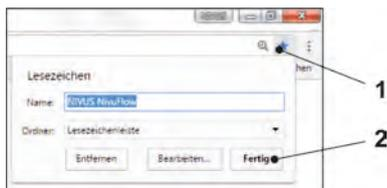

Fig. 31-25 Set up favourites
7. To create a browser favourite (for direct access) click the “Favourites” star (Fig. 31-25 no. 1, example here Google Chrome) and confirm with “Finished” (Fig. 31-25 no. 2).